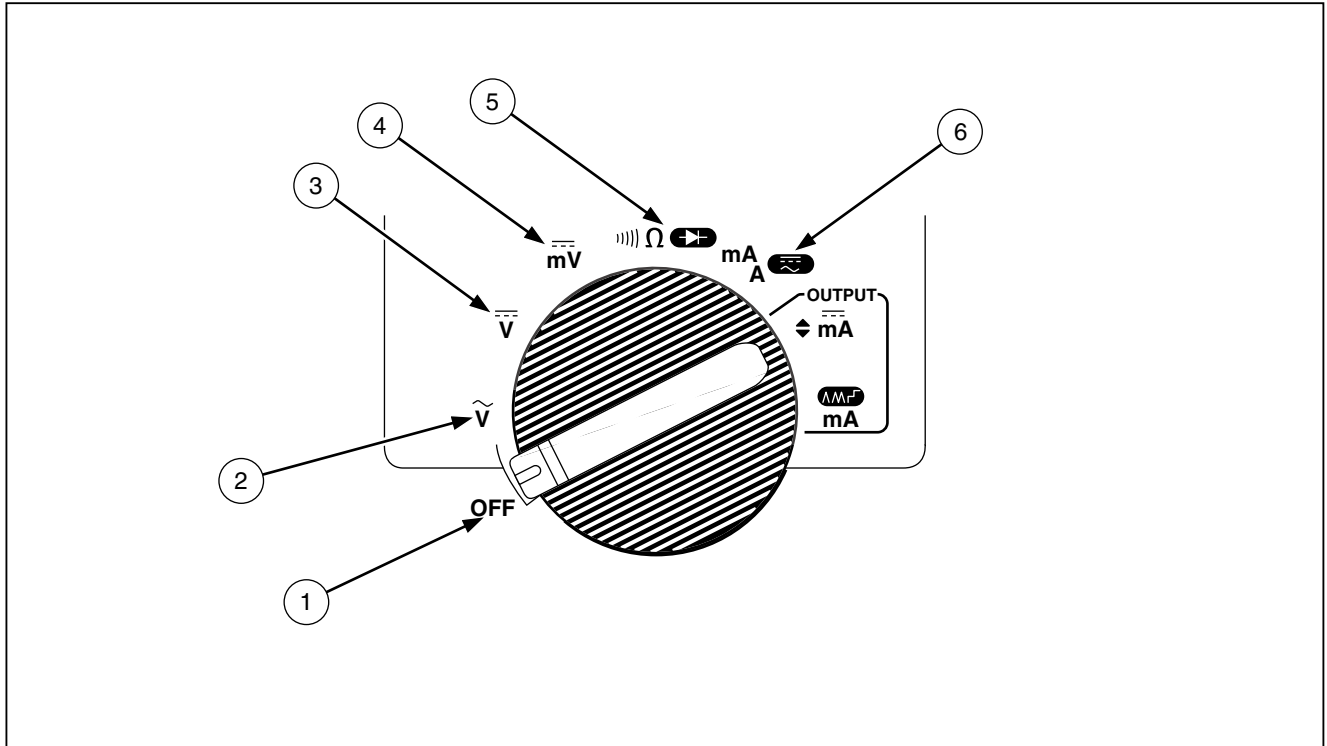

Figure 3. Rotary Switch Positions for Measurements
- Figure 3 and Table 3 describe the input functions you get with the first five rotary switch positions.